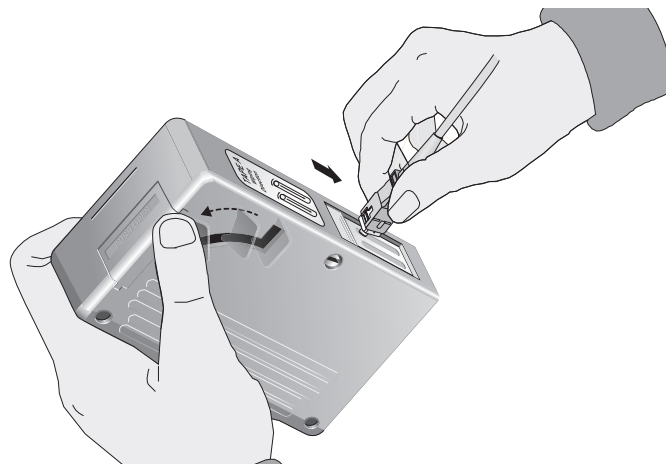

Figure 16. Rubbing the Ferrule Tip on the Cleaning Surface
1. With one hand, hold the cartridge cleaner and push the lever on the cleaning cartridge in the direction of the arrow to expose the cleaning surface, as shown in Figure 16.
2. Place the ferrule tip on the exposed cleaning surface and rub the ferrule in a downward direction, as shown in Figure 16.
1. Insert the swab into the adapter as shown in Figure 16 and rub the ferrule tip with the swab.